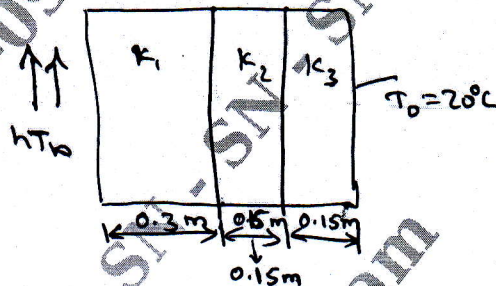

Fig.Q9
- 9 Solve for temperature distribution in the composite wall as shown in Fig.Q9, using 1 - D elements.